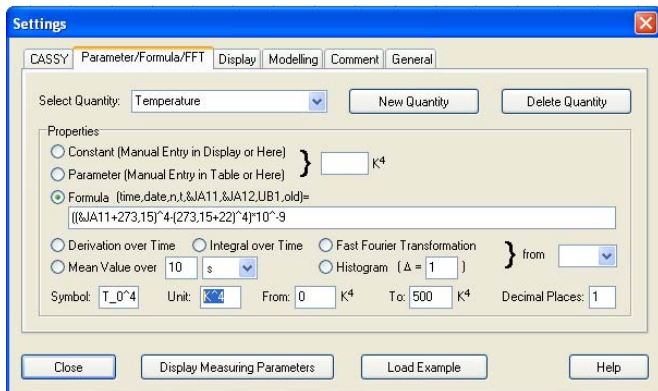

Fig. 3: Defining the formula $T^4 - T_0^4$ by using the new quantity tool (function key F5).
- If the window "Settings" is not open press the button or function key F5 and select the tab "Parameter/Formula/FFT" (Fig. 3).